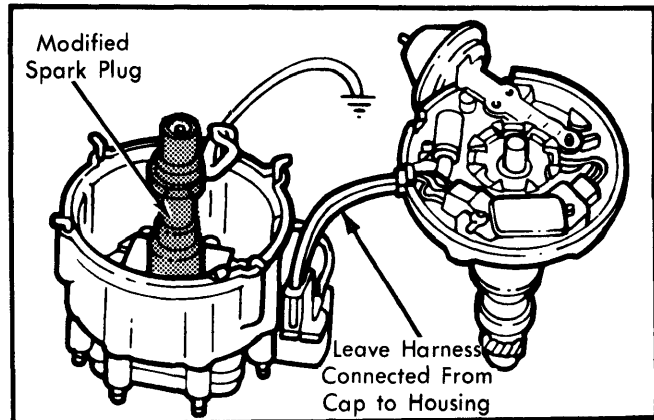

Fig. 4 Checking for Spark at Ignition Coil Output Terminal
- 4) If reading in step 2) was 10 volts or more, remove distributor cap, but leave wiring harness attached to cap connector. Connect spark tester (ST-125) or modified spark plug so terminal touches center contact of cap. Ground tester ground wire, and crank engine. See Fig. 4.